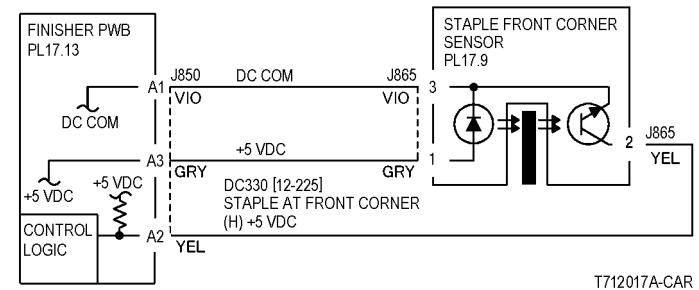
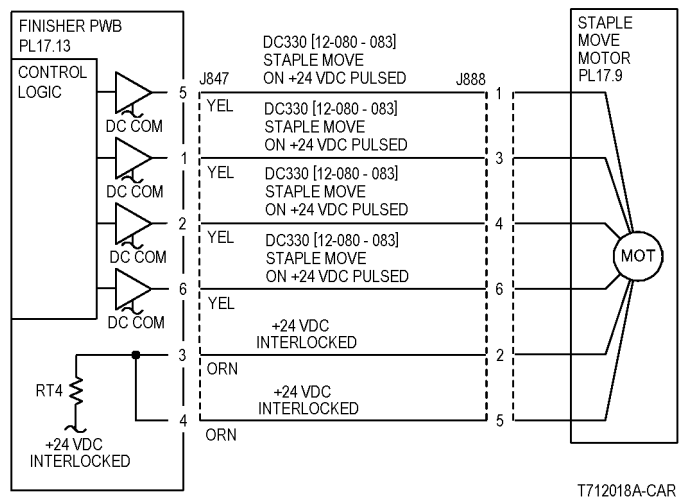

Figure 2 12-256 RAP Circuit Diagram - Staple Front Corner Sensor
Figure 3 12-256 RAP Circuit Diagram - Stapler Move Motor
- Ensure that the connectors shown in the circuit diagrams (Figure 2, Figure 3) are securely connected and that the wires are not damaged.